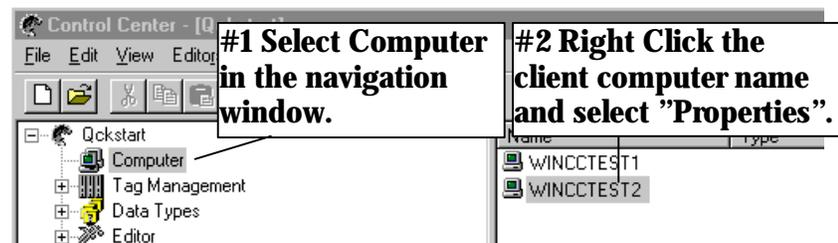

Figure 7.7 WinCC Project "QckStart"; Setting Parameters of the Client
1. To configure the startup properties, in the Control Center, select computer in the navigation window, and right click your client in the data window. For help with these steps, refer to Figure 7.7 through 7.9.